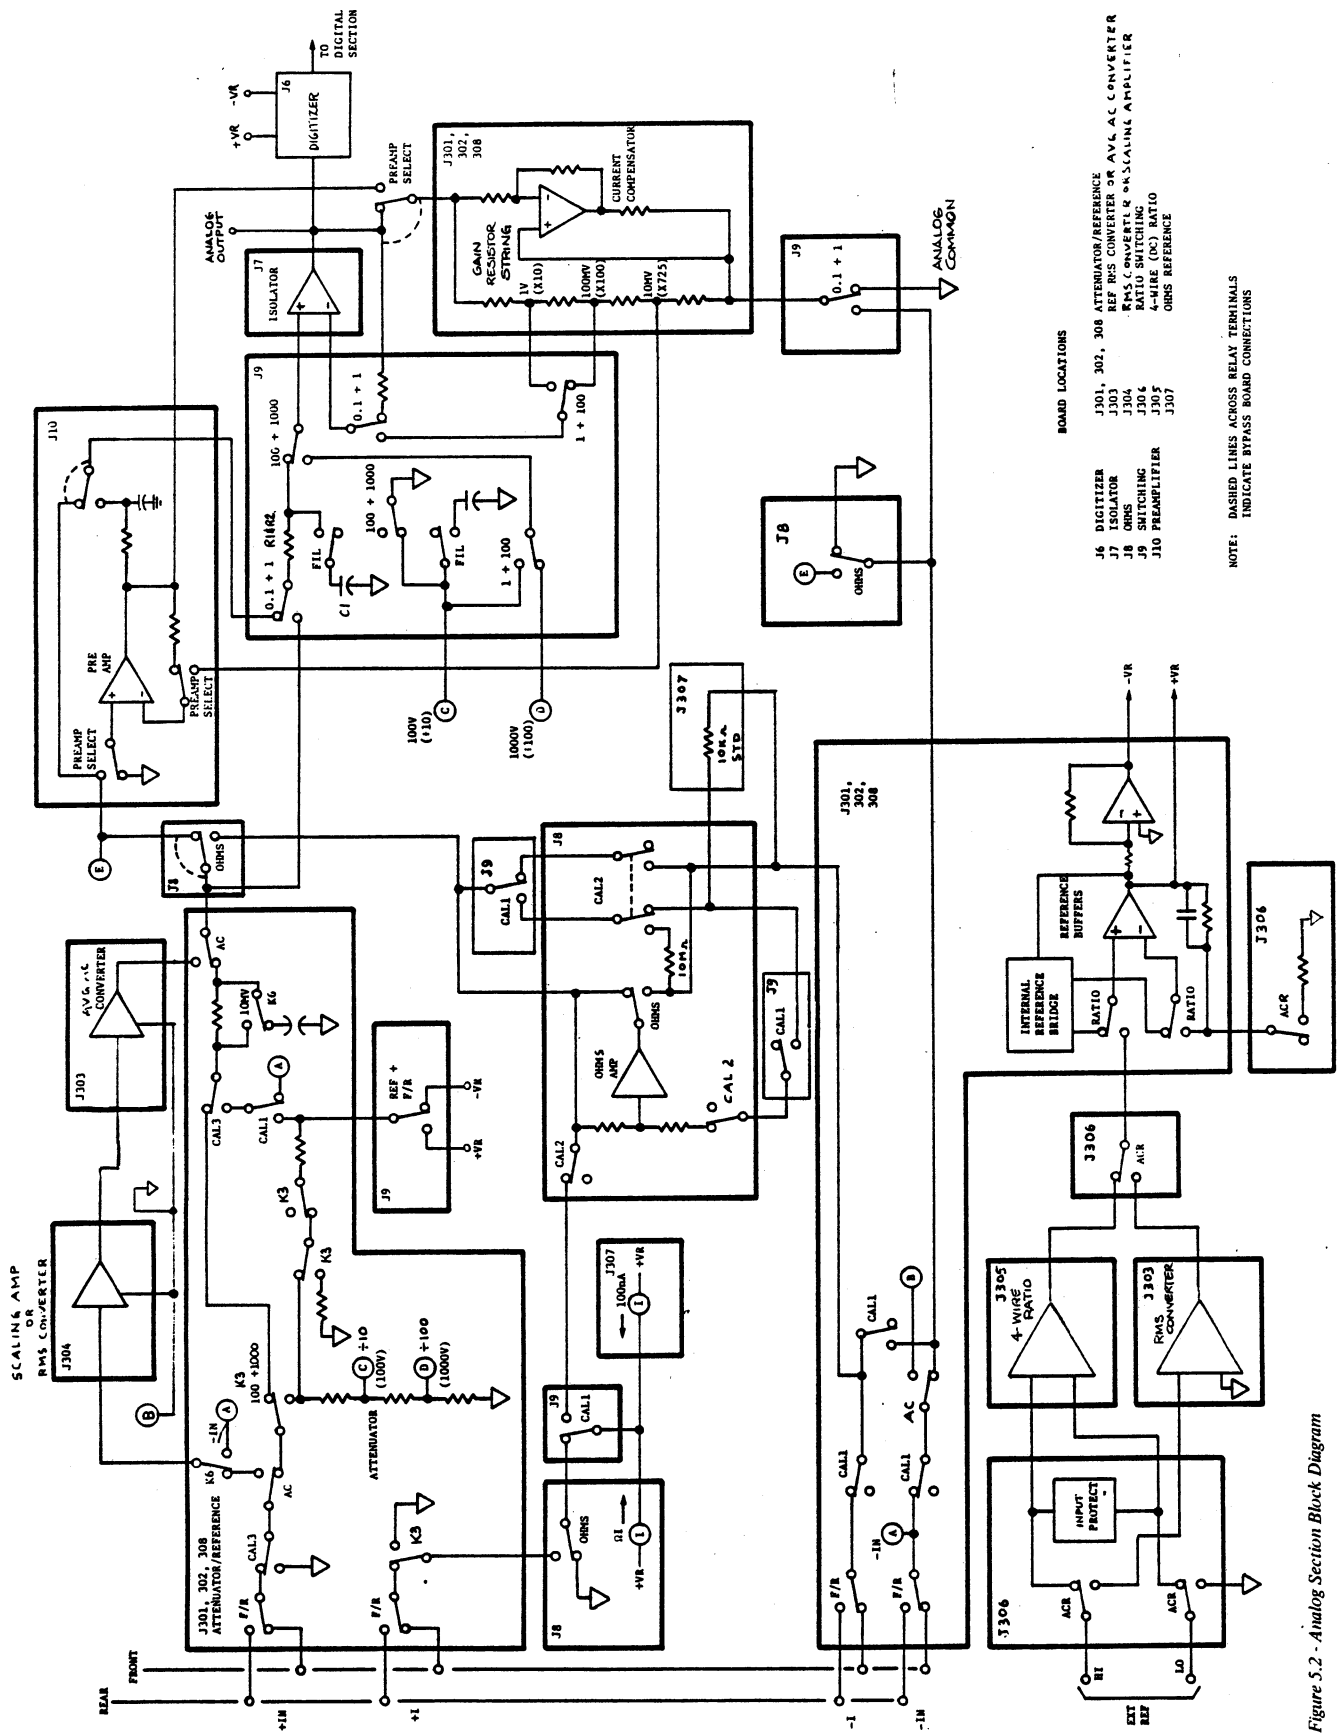
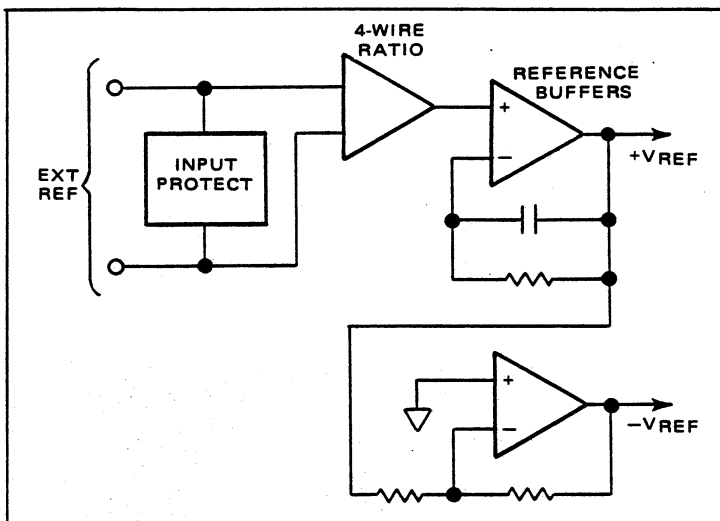

Figure 5.2 - Analog Section Block Diagram
Figure 5.12 - External Reference (DC EXT REF)
5.3.1 The following paragraphs present a detailed analysis of the signal conditioning process. A block diagram of the Analog section may be found in Figure 5.2.
5.3.4.3.2 DC signal inputs may be traced from the selected +IN terminal through contacts of the F/R (Front/Rear), Cal 3 and AC relays (reference Figure 5.2). The path from the selected -IN terminal is routed through contacts of the F/R, Cal 1 and AC relays. Signal routing beyond these points is dependent upon range selection.
5.3.4.6.2 The Model 6000 will accept DC external reference voltages between  $+1.0$  and  $+10.5$  volts when DC EXT REF is selected. As shown in Figure 5.2, the external reference voltage is routed through the normally closed contacts of the ACR relay to the differential inputs of the 4-Wire Ratio amplifier. The 4-Wire Ratio amplifier acts as a buffer, and eliminates ground loop errors by permitting the reference voltage to float with respect to the input signal common. The output of the 4-Wire Ratio amplifier is routed through the normally closed contacts of the ACR relay and the normally open contacts of the Ratio relay to the input of the Reference Buffers. The Reference Buffers are unity gain amplifiers, and provide plus and minus reference voltages equal in magnitude to the external reference voltage. A simplified block diagram is shown in Figure 5.12.